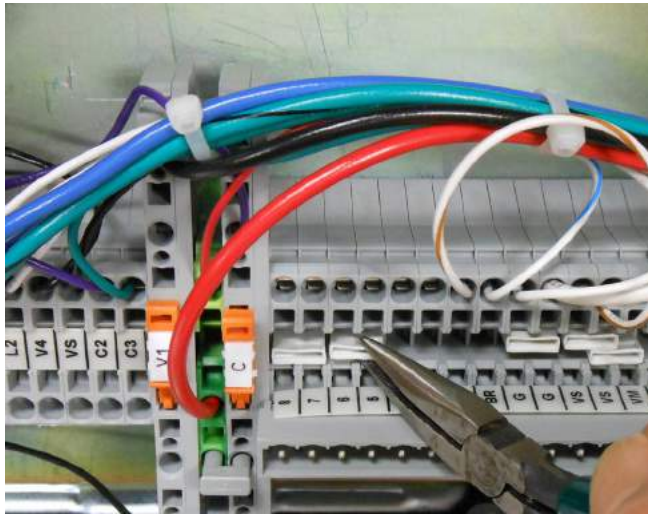

Figure 4. Removing jumper between terminals 5 and 6
5. Remove the jumper between terminals 5 and 6, if present. Refer to **Figure 4**.